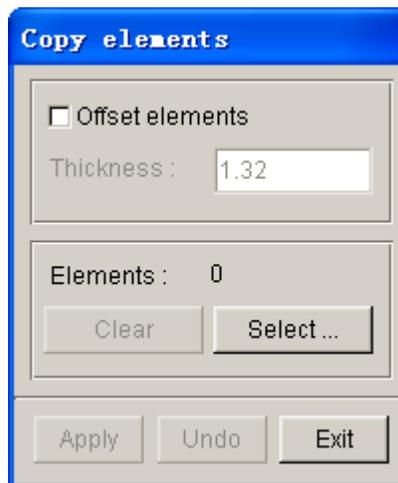

Figure 8.2.61 Copy Elements dialog box
**COPY ELEM...:** This function allows the user to COPY or OFFSET element(s) from existing elements. If only one die face is defined, the user may COPY or OFFSET tools (punch and binder) using this function. The COPY ELEMENTS dialog box illustrated in Figure 8.2.61 is displayed.